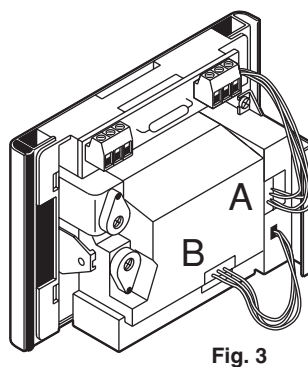

Fig. 3
3. Insert connector A in the coupling of the device and connector B in the coupling of the TV camera (fig. 3).